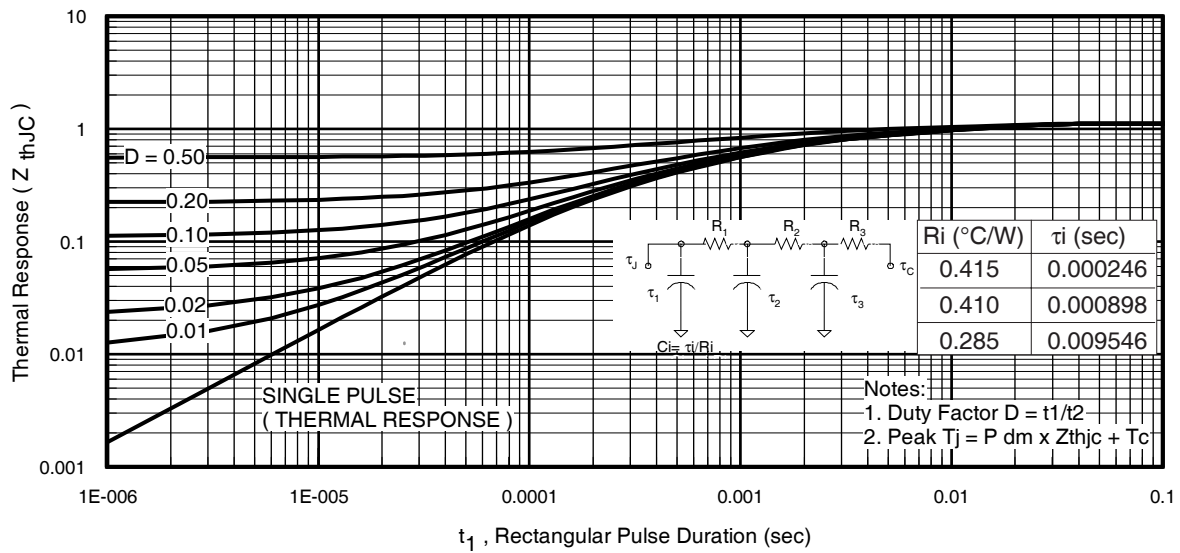
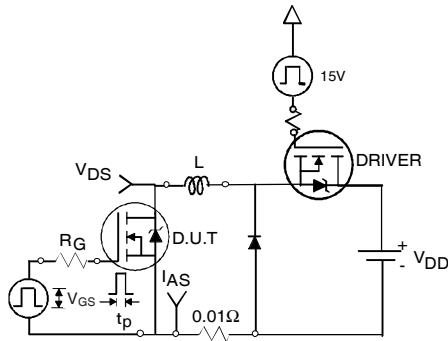

Fig 11. Maximum Effective Transient Thermal Impedance, Junction-to-Case
Fig 12a. Unclamped Inductive Test Circuit
- ① Repetitive rating; pulse width limited by max. junction temperature. (See fig. 11).
- ② Limited by T_{Jmax} , starting $T_J = 25^\circ\text{C}$, $L = 0.077mH$, $R_G = 25\Omega$, $I_{AS} = 51A$, $V_{GS} = 10V$. Part not recommended for use above this value.
- ③ $I_{SD} \leq 51A$, $di/dt \leq 260A/\mu s$, $V_{DD} \leq V_{(BR)DSS}$, $T_J \leq 175^\circ\text{C}$.
- ④ Pulse width $\leq 1.0ms$; duty cycle $\leq 2\%$.
- ⑤ $C_{oss \text{ eff.}}$ is a fixed capacitance that gives the same charging time as C_{oss} while V_{DS} is rising from 0 to 80% V_{DSS} .
- ⑥ Limited by T_{Jmax} , see Fig.12a, 12b, 15, 16 for typical repetitive avalanche performance.
- ⑦ This value determined from sample failure population. 100% tested to this value in production.
- ⑧ This is applied to D²Pak, when mounted on 1" square PCB (FR-4 or G-10 Material). For recommended footprint and soldering techniques refer to application note #AN-994.
3. Equation below based on circuit and waveforms shown in Figures 12a, 12b.
$Z_{thJC}(D, t_{av})$ = Transient thermal resistance, see figure 11)